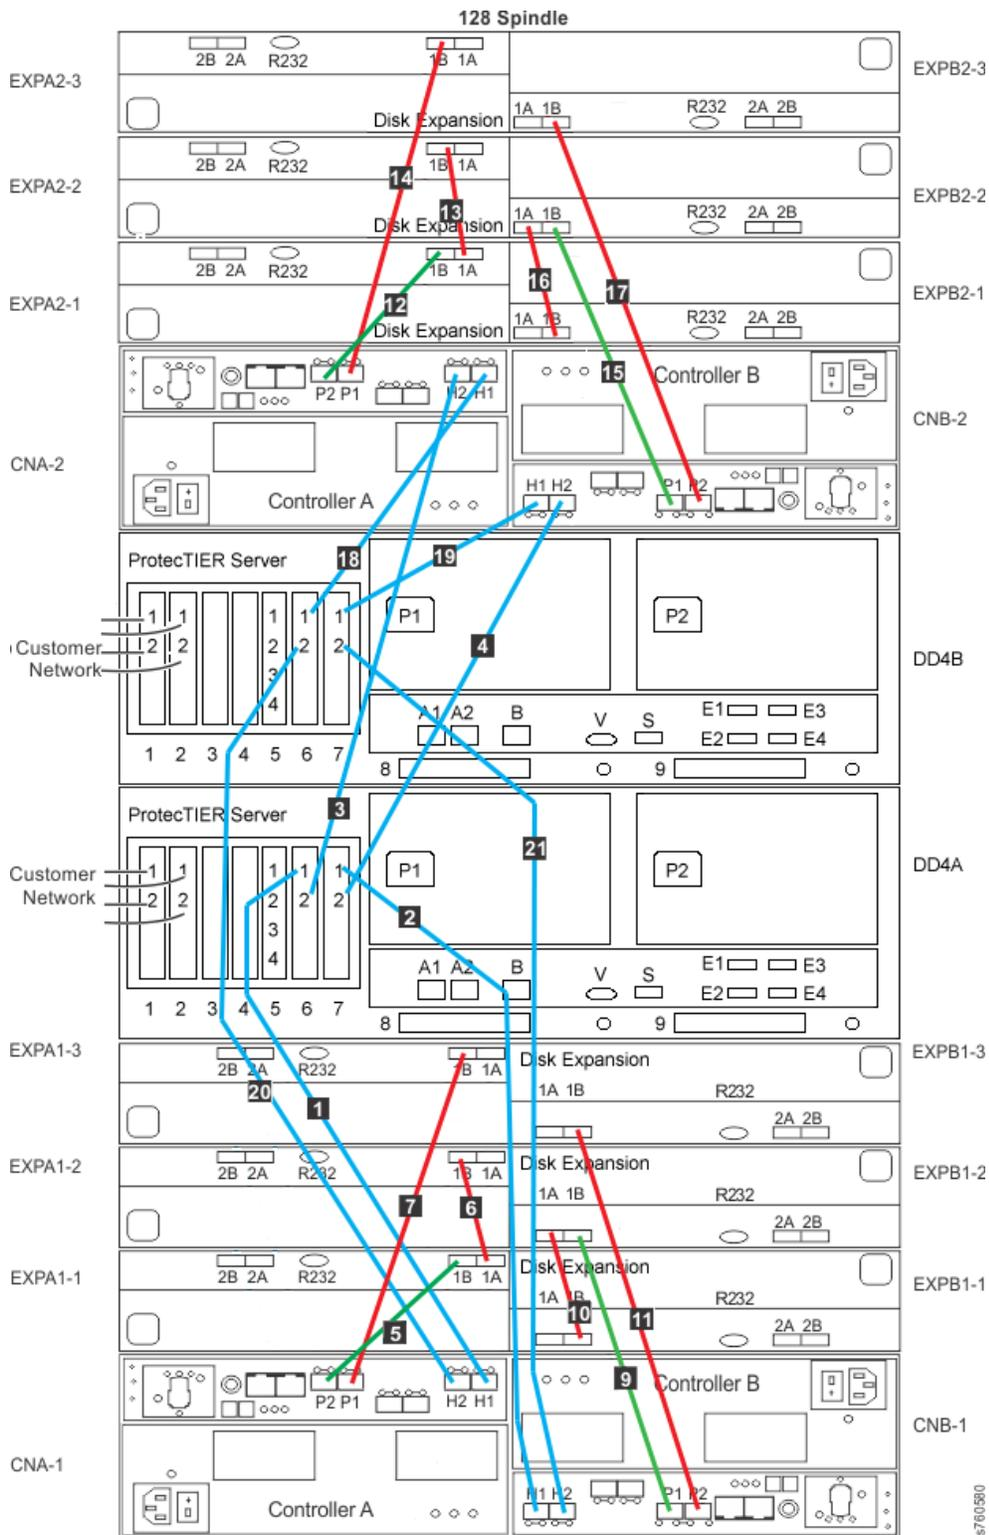
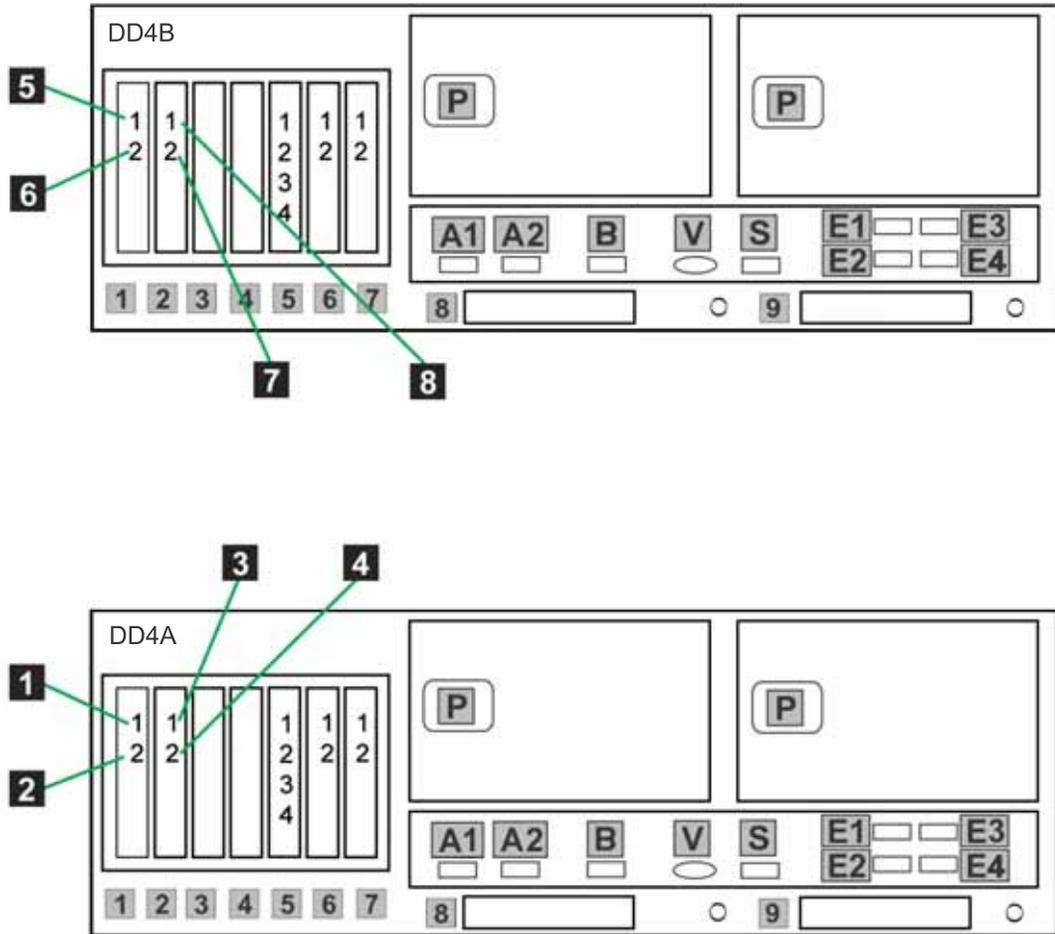

Figure 26. Clustered fibre channel connections for VTL configuration
Figure 27. Clustered Host fibre channel labels
1. Connect fibre channel cables according to Table 23 on page 64 and Figure 26 on page 63. Use Table 24 on page 65 and Figure 27 on page 65 to connect to the customer's host network.
2. Use Table 23 on page 64, Table 24 on page 65, Figure 26 on page 63 and Figure 27 on page 65 to verify that the recommended disk components are cabled correctly.